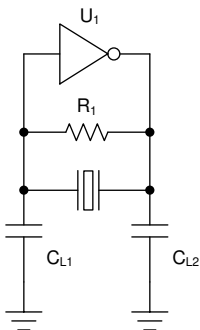

Figure 6-2. Pierce Type Oscillator
Both crystal oscillators are pierce type oscillators that can be seen in Figure 6-2. In this type of oscillator, the crystal and the load capacitors form a pi-filter providing a 180° phase shift to the internal amplifier keeping the oscillator locked at the specified frequency. For this frequency to be correct, the load capacitance must be dimensioned properly based on the crystal's capacitive load (CL) parameter.